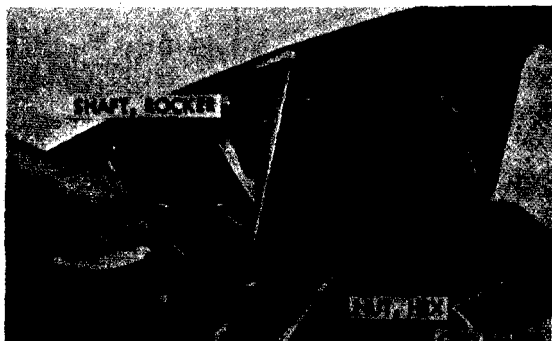

Figure 111. Removing rocker shaft bolt
- (1) Remove hex-head nut (fig. 111) and lockwasher from rocker shaft bolt, and remove bolts. Remove six cap screws and external - teeth lockwashers, three on each side of subbase.
- (13) Secure rocker shaft (fig. 111) with rocker shaft bolt and hex-nut.
- (14) Position fifth wheel spacers, one on each frame side rail, and secure to frame with one hex-head bolt and safety nut at the rear.